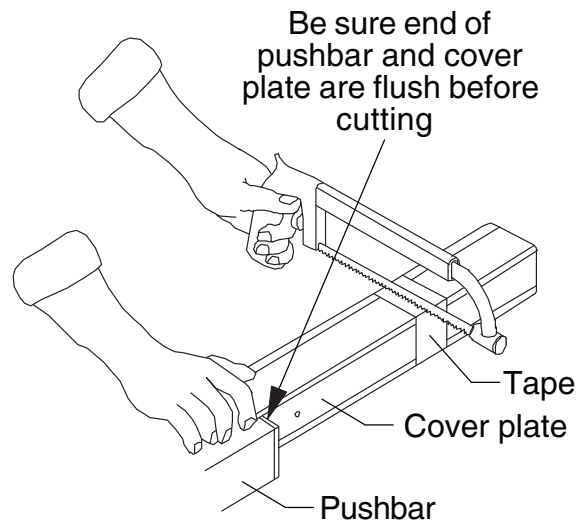

Figure 2-3
- 3.4. If cutting is required, tape device at cut location and cut through tape and device (Figure 2-3).